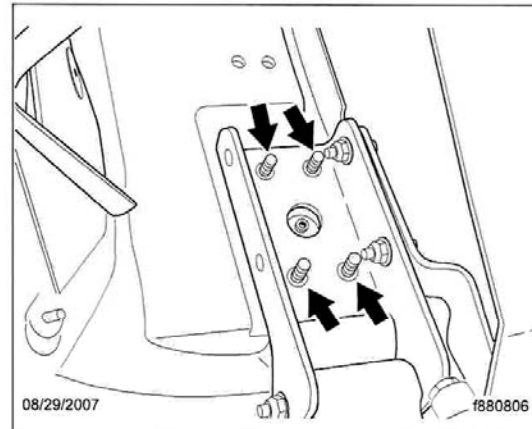

Fig. 2, Four Washers and Nuts Removed
5. Remove the four washers and nuts from the hood hinge mounting bracket on the left-side of the hood. See **Fig. 2**.